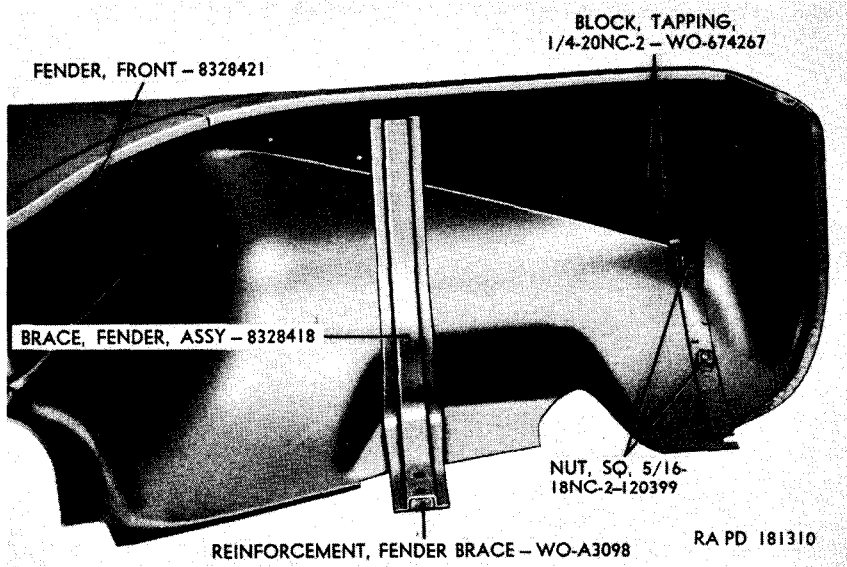
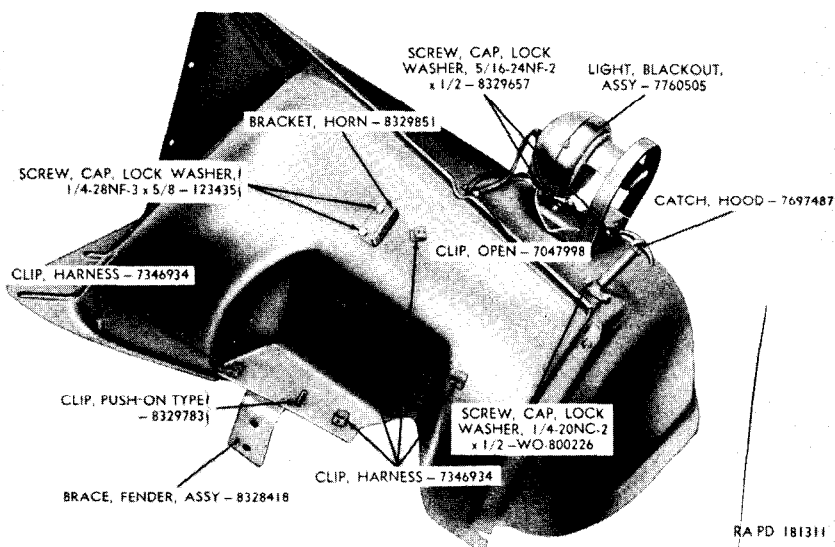

Figure 174. Underside of right front fender.
Figure 175. Outside of left front fender and related parts.
b. *Fenders* (figs. 174 and 175). Both front fenders are similar in design and construction. They are secured to the body, radiator guard assembly, and frame in an identical manner. The left front fender, however, mounts the blackout driving light and guard, horn, and clips for securing the vehicle wiring harness and fuel line.
a. Right Front Fender. The right front fender (fig. 174) requires no disassembly except for removal of the hood catch. Do not remove hood catch unless inspection (par. 234a) reveals it to be unserviceable. To remove hood catch (fig. 175), remove two lockwasher cap screws.
b. Left Front Fender (fig. 175 and 176). Do not remove the horn
(figs. 174, 175, and 176)
a. Right Front Fender. Secure hood catch (fig. 175) with two $\frac{1}{4}$ -20NC-2 x $\frac{1}{2}$ lockwasher cap screws.
b. Left Front Fender (figs. 175 and 176).
- (1) *Install horn bracket.* Secure horn bracket to left front fender with two $\frac{1}{4}$ -28NF-3 x $\frac{5}{8}$ lockwasher cap screws.
- (2) *Install blackout light assembly.* Position blackout light assembly on top of left front fender and secure with two $\frac{5}{16}$ -24NF-2 x $\frac{1}{2}$ lockwasher cap screws and one $\frac{5}{16}$ -24NF-2 x $\frac{3}{4}$ lockwasher cap screw. Secure open clip to top of left front fender with a No. $\frac{1}{4}$ -24NC-2 x $\frac{1}{2}$ cap screw.
- (3) *Install hood catch.* Refer to *a* above.
- (4) *Install wiring harness and push-on type clips.* Install the six wiring harness clips and one push-on type clip by inserting them in their retaining holes in the left front fender.